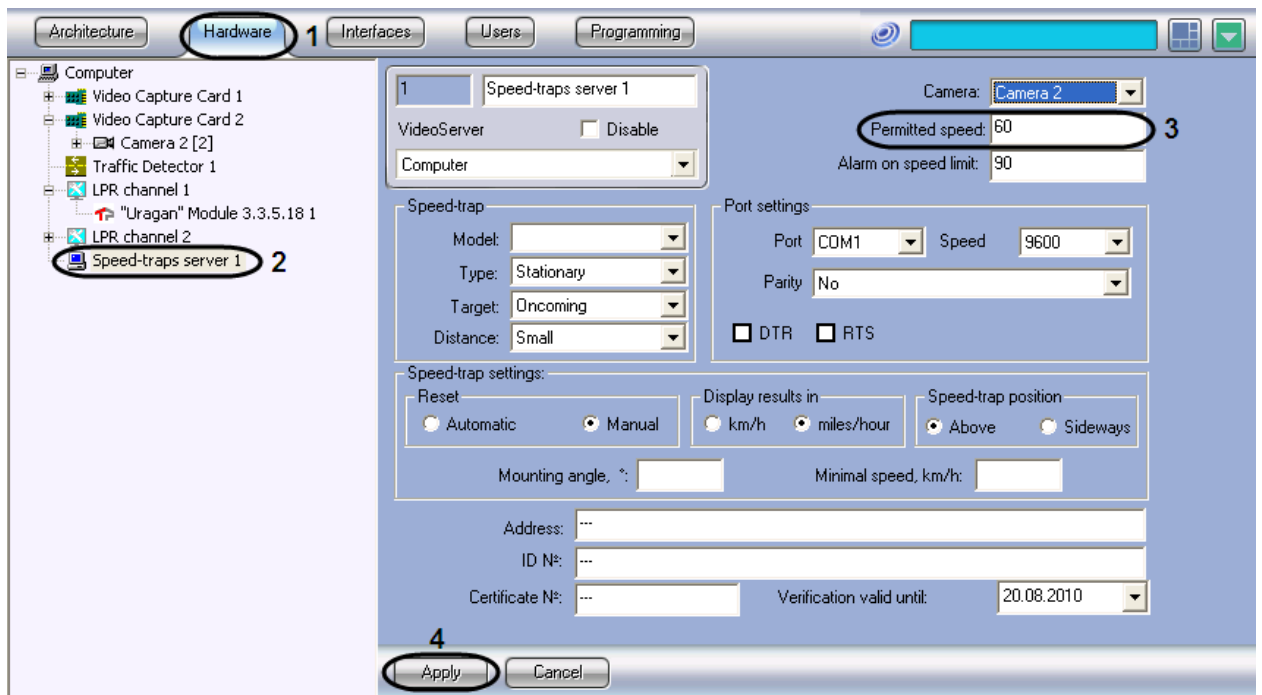

Fig.7.5-4 1 Permitted speed setup
2. In the object tree on the left side of the Hardware tab, select the Speed-trap server object representing the Radar module to be set up. The settings panel of the selected object will open on the right side of the window (Fig.7.5-4 1).
3. Enter the permitted vehicle speed that has to be displayed in the recognized number report in the Permitted speed field. The parameter is given in km/h(Fig.7.5-4 1,3).
4. Click Apply (Fig.7.5-4 1, 4).